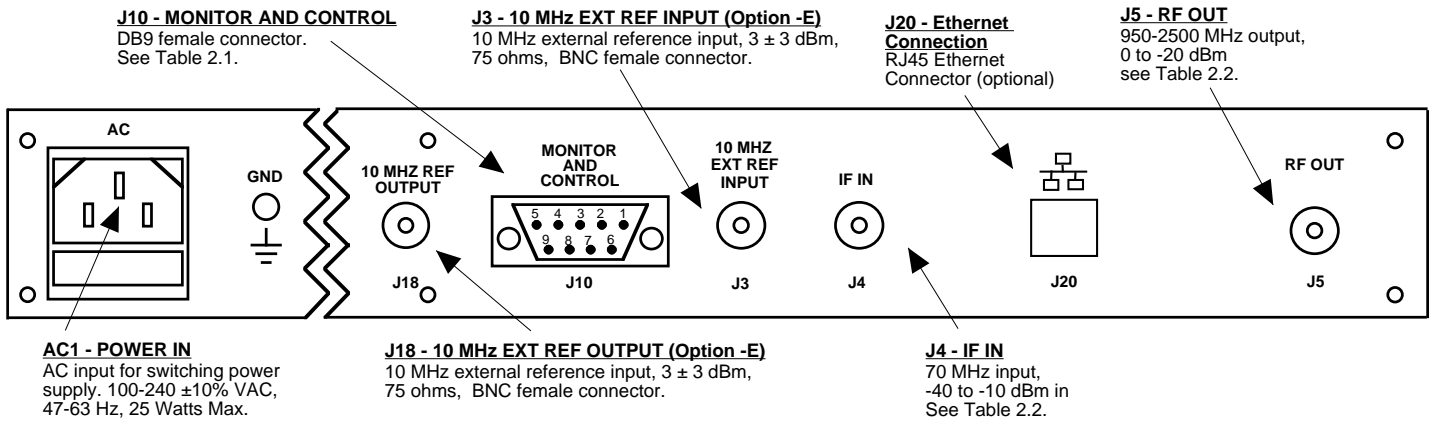

FIGURE 2.1 2015-0925 Rear Panel I/O's
Figure 2.1 shows the input and output connectors on the rear panel.
1. Connect a -40 dBm to -10 dBm signal to IF In, J4 (Figure 2.1)
8. Option -V only - To insert SSPB +24 VDC on the RF center pin install 2.5A fast blo fuse in F2 and check that DS7 lights yellow (Figure 2.1)